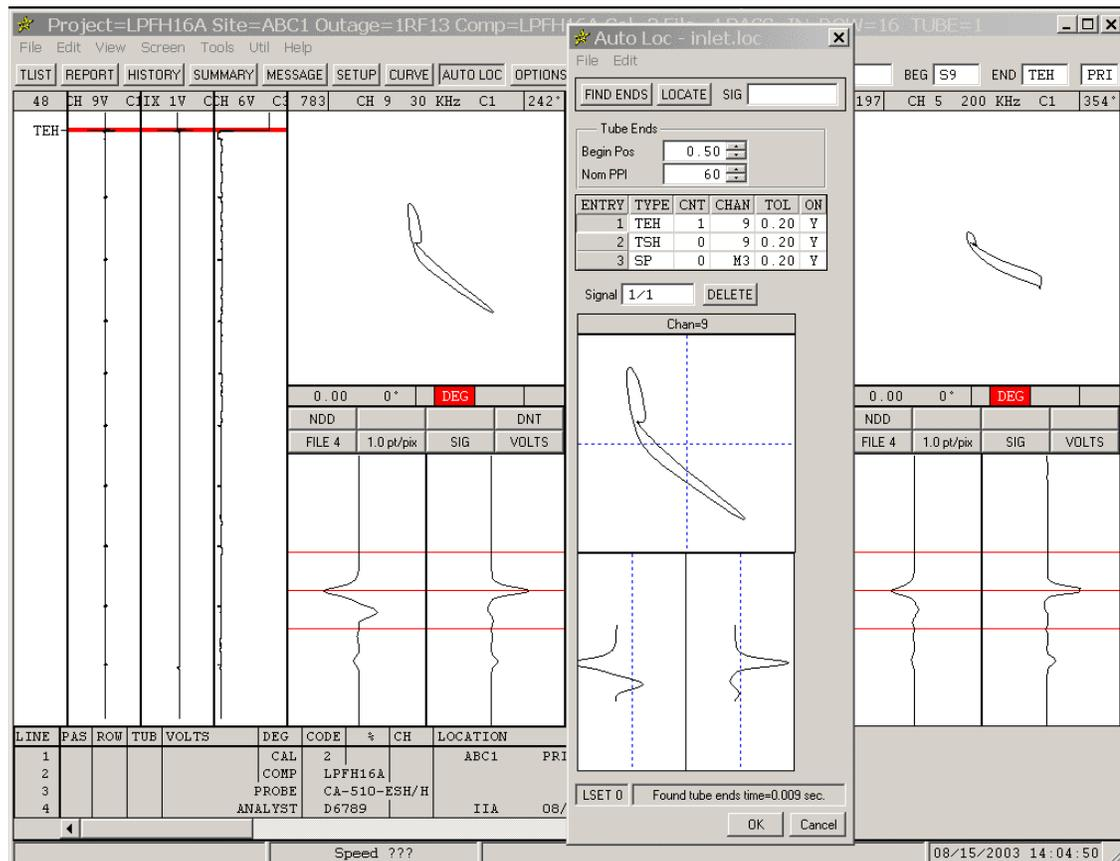

Figure 1-27. Auto-locate - Training the Tube End
- STEP 11:** Click the *FIND ENDS* button. As shown in Figure 1-27, *TEH* should appear in the *Landmark* strip to the left of the long strip charts.